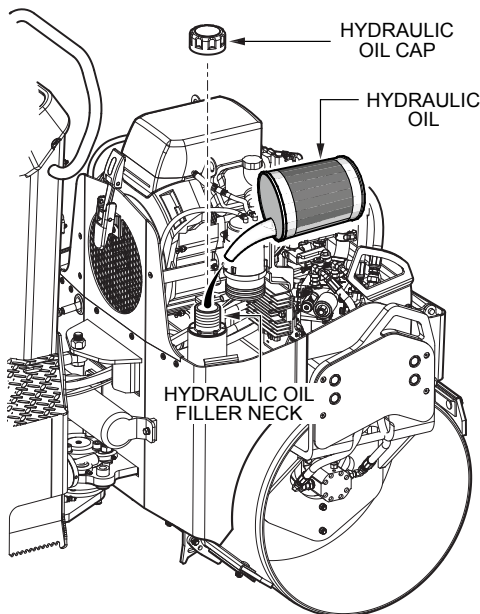

Figure 14. Hydraulic Oil Reservoir Filler Port
3. If the hydraulic oil level is low, remove the hydraulic oil cap (Figure 14) and fill with type ISO 46 anti-wear type hydraulic oil to the recommended operating level.